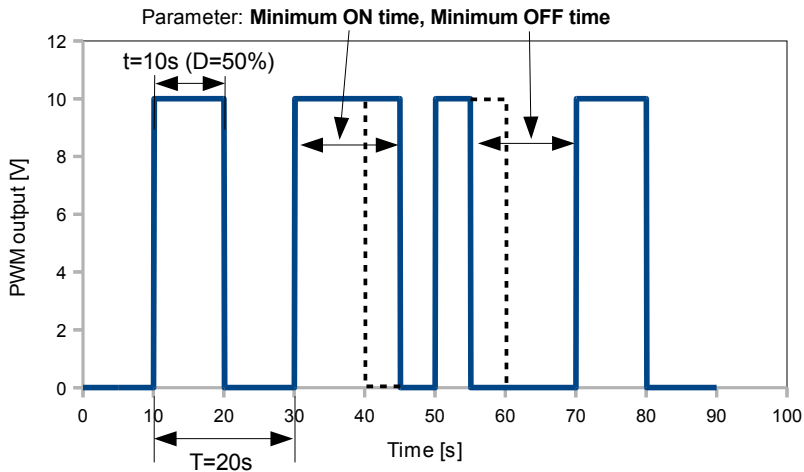

Fig. 7.92. Sample of output signal of SSR relay in PWM mode
- **Minimum ON time** - minimum duration of a high state (after switching to a high state, switching back is possible after **Minimum On time**), see Fig. 7.92,
- **Minimum OFF time** - minimum duration of a low state (after switching to a low state, switching back is possible after **Minimum OFF time**), see Fig. 7.92,